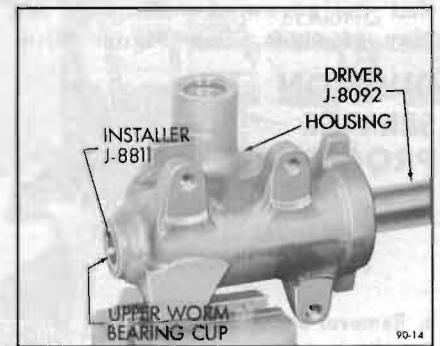

Figure 90-8—Installing Upper Worm Bearing Cup
2. Inspect worm bearings and cups for damage or excessive wear. Replace bearings if necessary. The lower worm bearing cup is not replaced separately, but is serviced with the worm bearing adjuster. If upper worm bearing cup is defective, drive cup out of housing with a punch and install new cup using installer J-8811 with driver handle J-8092. See Figure 90-8.